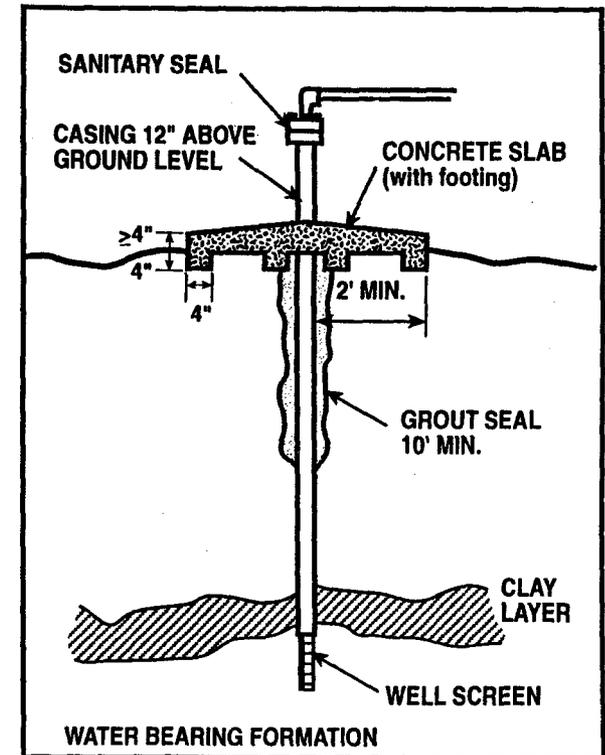

Figure 1. Cross sectional view of a typical well showing proper construction to prevent contamination
Surface water often carries contaminants like bacteria, viruses and toxic chemicals with it. Your well should already have some protection features built into its construction by your well driller. However, a properly installed, watertight *curbing* serves as an additional line of defense against surface water contamination. *Curbing* serves as a barrier that helps prevent surface water from entering wells and contaminating drinking water supplies (see Figure 1).
* Words in italics are defined in the glossary & illustrated in Fig. 1.